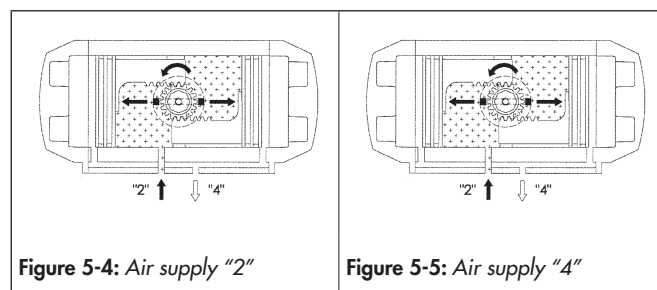

Figure 5-4: Air supply "2"
- Supply air to port "2" moves the pistons in the direction of the end positions, see Figure 5-4. Air supply to port "4" requires a clockwise direction of rotation.